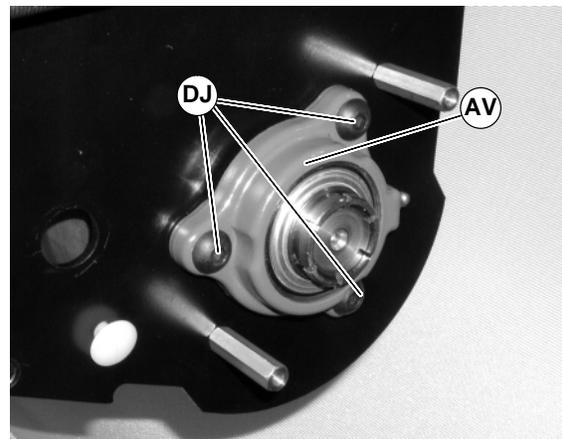

Figure 110
4. Remove the three (3) mounting screws (DJ of Figure 110).
5. Remove and replace housing assembly (AV of Figure 110).
6. Tighten three (3) mounting screws (DJ of Figure 110) to 200 in-lbs (22.5 N-m).